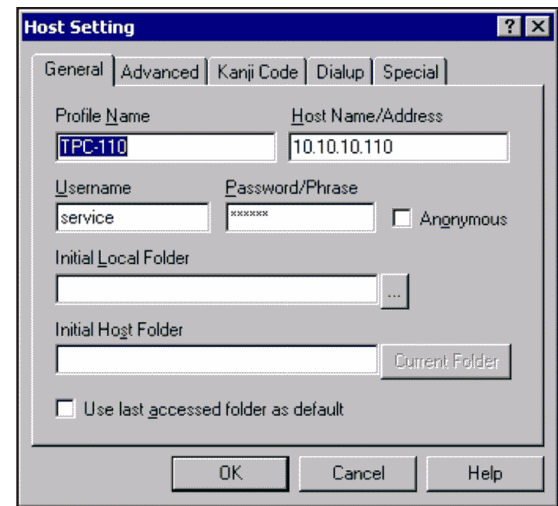

Figure 3-42 Host Setting
- Complete the **Host Setting** entries (**Figure 3-42**).